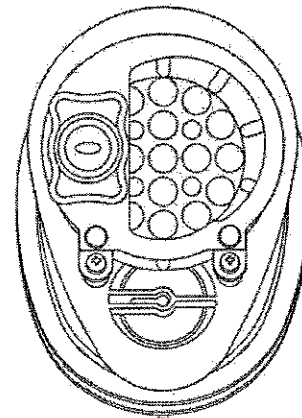

Figure 3. Attach Microphone
7. Position the holes in the microphone "legs" over the nozzle inserts. See Figure 3.